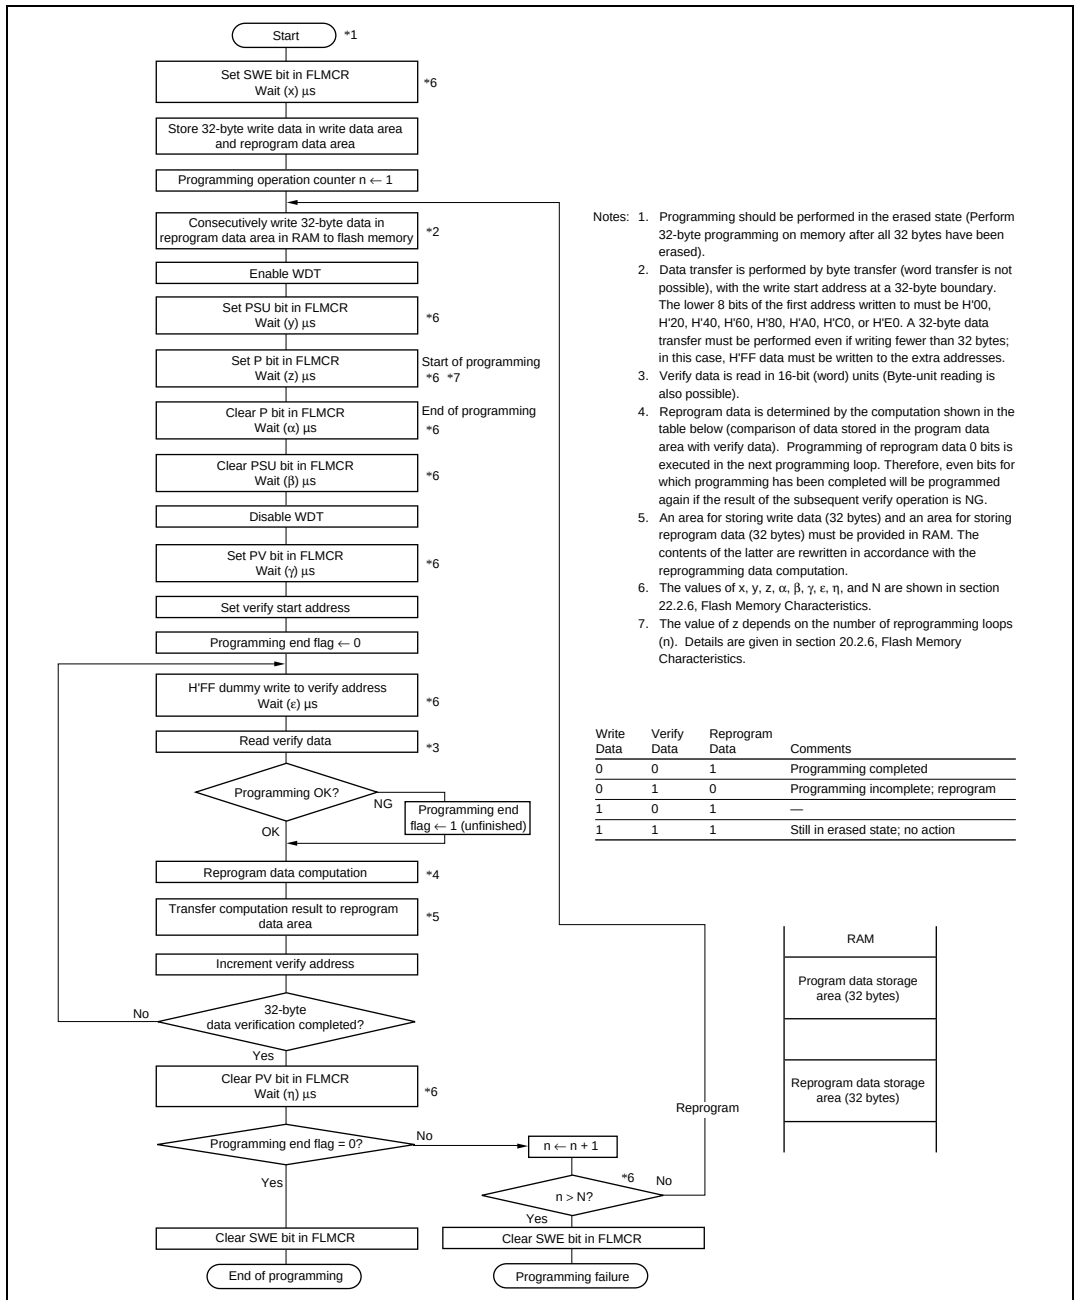

Figure 17.11 Program/Program-Verify Flowchart (32-byte Programming)
When writing data or programs to flash memory, the program/program-verify flowchart shown in figure 17.11 should be followed. Performing programming operations according to this flowchart will enable data or programs to be written to flash memory without subjecting the device to voltage stress or sacrificing program data reliability. Programming should be carried out 32 bytes at a time.
Clear the P bit in FLMCR, then wait for at least (α) μs before clearing the PSU bit to exit program mode. After exiting program mode, the watchdog timer setting is also cleared. The operating mode is then switched to program-verify mode by setting the PV bit in FLMCR. Before reading in program-verify mode, a dummy write of H'FF data should be made to the addresses to be read. The dummy write should be executed after the elapse of (γ) μs or more. When the flash memory is read in this state (verify data is read in 16-bit units), the data at the latched address is read. Wait at least (ϵ) μs after the dummy write before performing this read operation. Next, the originally written data is compared with the verify data, and reprogram data is computed (see figure 17.11) and transferred to RAM. After verification of 32 bytes of data has been completed, exit program-verify mode, wait for at least (η) μs , then determine whether 32-byte programming has finished. If reprogramming is necessary, set program mode again, and repeat the program/program-verify sequence as before. The maximum number of repetitions of the program/program-verify sequence is indicated by the maximum number of programming operations (N) .